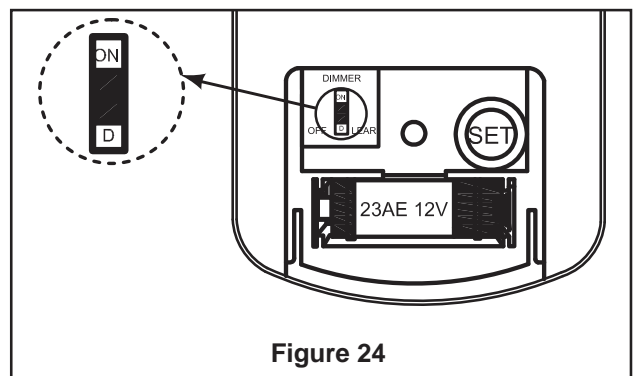

Figure 24
- The "ON" selection is the light dimmable selection and is to be used with all bulbs other than CFL. The "D" selection is the light on only (no dimming function) and is to be used with CFL bulbs (as CFL bulbs cannot be dimmed). The receiver provides the following protective function: (Figure 24)